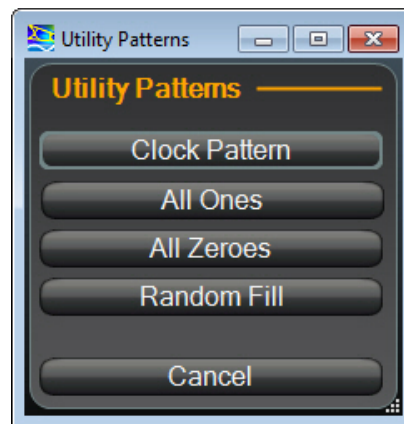

Figure 69. Utility pattern
1. In the **Programmable Pattern Editor**, click on the **Utility Pattern...** button under **Insert**. The utility patterns selection buttons are displayed as shown in Figure 69.